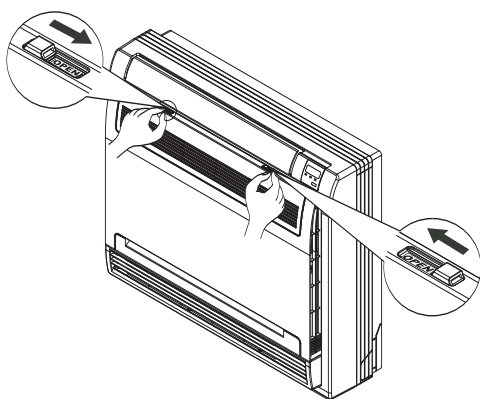

Fig.F1
1. Open the front panel.(Refer to Fig. F1)